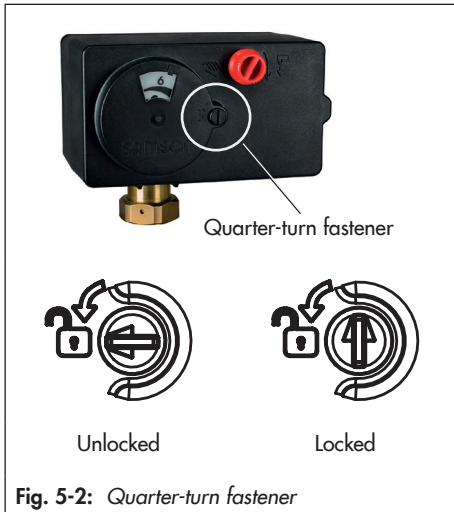

Fig. 5-2: Quarter-turn fastener
The front housing cover of the actuator is secured by a quarter-turn fastener (see Fig. 5-2).
- Make sure that the quarter-turn fastener is turned to the unlocked position (see Fig. 5-2) and the handwheel (actua-